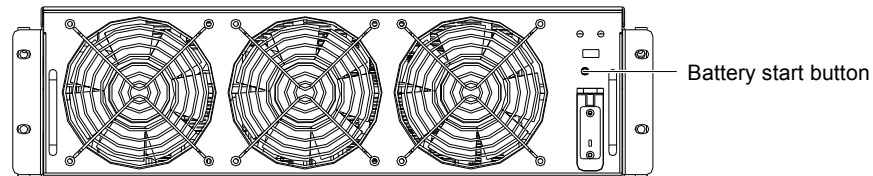

Figure 3-2 Location of battery start button
2. Press the battery start button (see Figure 3-2) on the front panel of any power module.